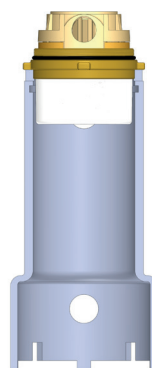

Fig. 6
- 2.12. Use the installation key to guide the measuring capsule into the FHM (Fig. 6). Pay attention to the flow direction in accordance with the arrow on the FMT and on the bottom of the measuring capsule.